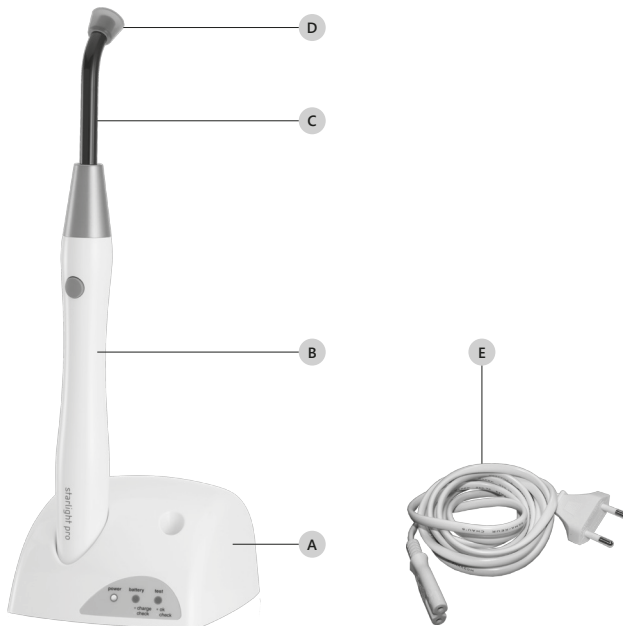
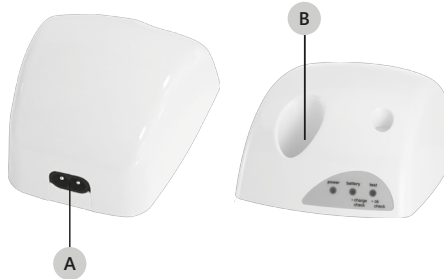

Figure 4 – List of Components
Figure 5 – Charging unit.
Ⓞ CAUTION: Recharge the battery only with the Mectron charging unit (*Figure 4 at page 8 - Ref. A*). Do not attempt to recharge the battery using a generic battery charger. This entails a risk of explosion and fire.
Refer to Figure 4 at page 8:
⚠ WARNING: Do not introduce metal objects or the fingers into the handpiece housing in the charging unit (Figure 5 at page 10 - Ref. B) when the device is on.
2. Plug the power cable (Figure 4 at page 8 - Ref. F) into the connector on the back side of the charging unit (Figure 5 at page 10 - Ref. A) and then into the power outlet. The green power LED should light up (Table 1 at page 11 - Ref. A).
1. Place the handpiece into its housing in the charging unit (Figure 5 at page 10 - Ref. B). The green battery LED will light up (Table 1 at page 11 - Ref. B).
1. Place the handpiece into its housing in the charging unit (Figure 5 at page 10 - Ref. B). The green battery LED will light up (Table 1 at page 11- Ref. B).
⚠ **CAUTION: Recharge the battery only with the Mectron charging unit** (*Figure 4 at page 8 - Ref. A*). Do not attempt to recharge the battery using a generic battery charger. This entails a risk of explosion and fire.